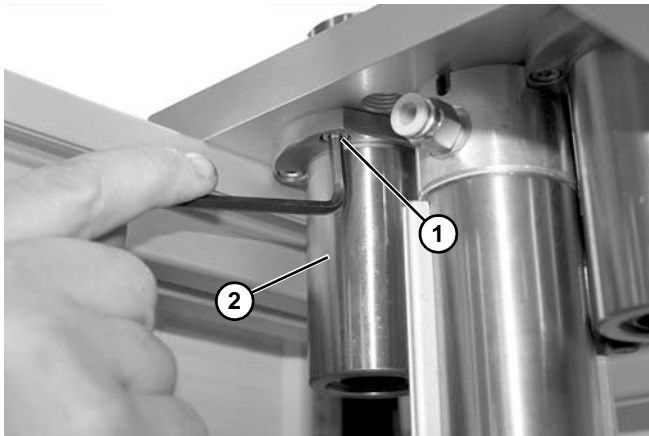

Figure 108
2. Remove socket head screws (**Figure 108, item 1**) and bearing (**Figure 108, item 2**). Repeat for other bearing.